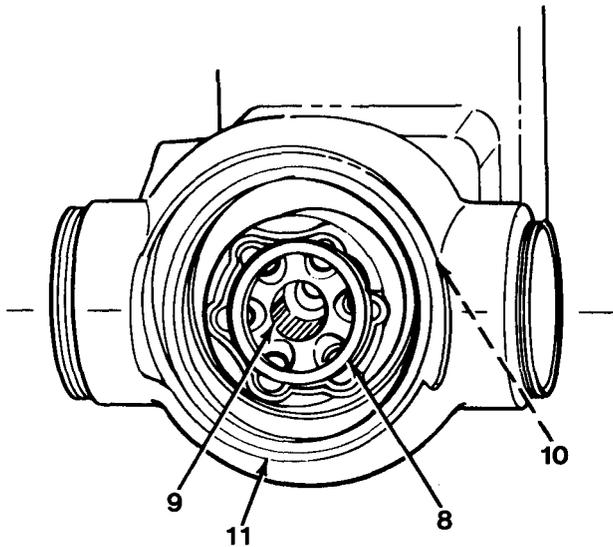

Figure 12-2
5. Remove constant velocity joint (8) and axle shaft (9) from axle housing (11, Figure 12-2).
6. Remove oil baffle (10) only if there is visible damage.